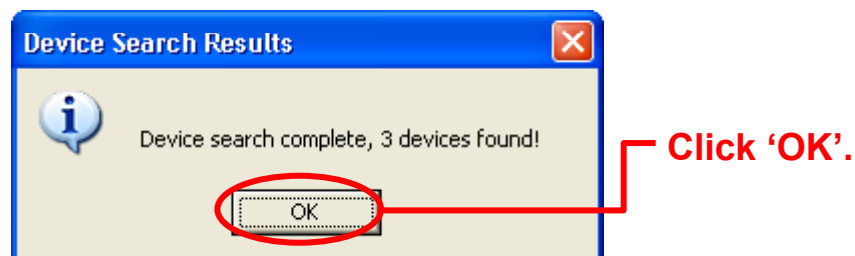
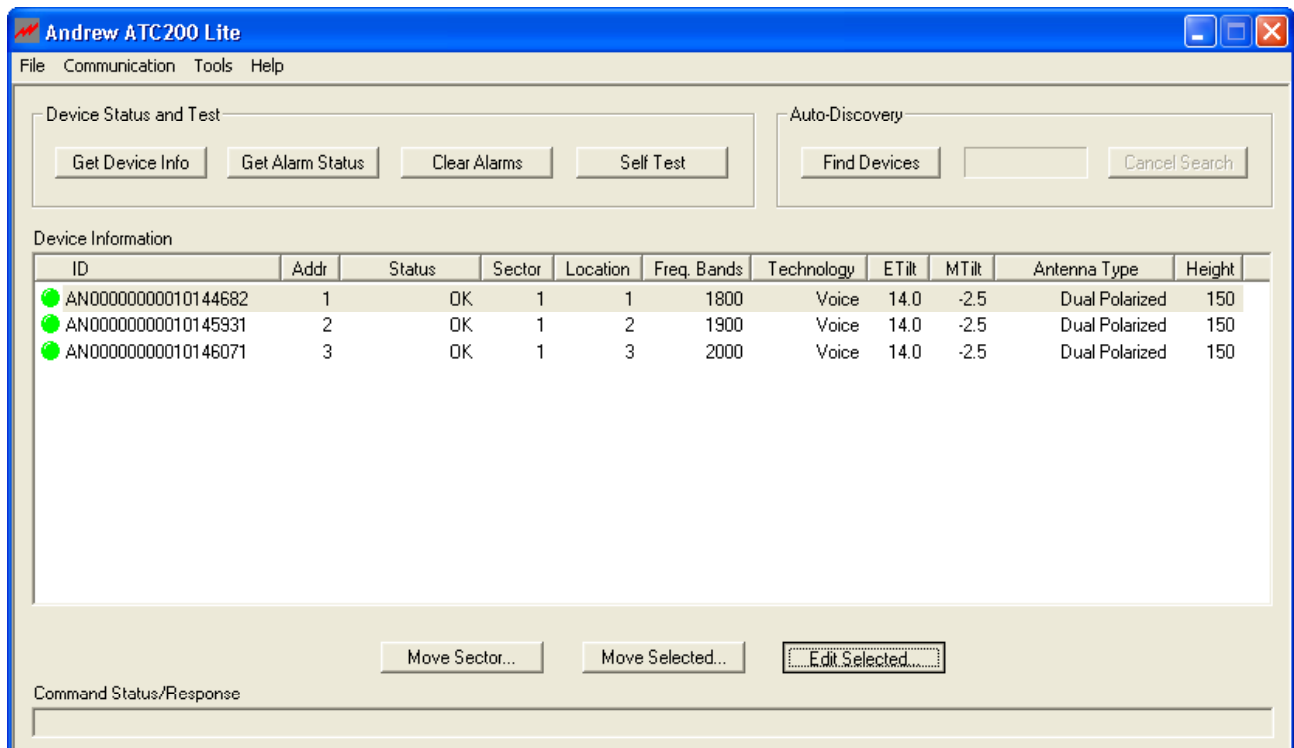

Figure 4-3. Device Search Results.
Figure 4-4. Antenna Information for Devices Found During Search Displayed.
- At completion of the search, a notification will appear showing the number of devices found (Figure 4-3).
- Click OK on the device search results dialog box (Figure 4-3). Pre-configured and new devices found will display in the 'Device Information' list (Figure 4-4).